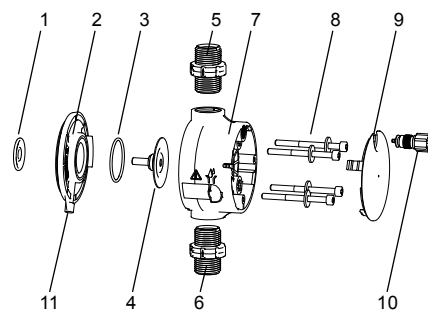

Fig. 23 Dosing head, exploded view
Daily	Check, if liquid leaks from the drain opening (fig. 23, pos. 11) and if the drain opening is blocked or soiled. If so, follow the instructions given in section 7.6 Diaphragm breakage .
This section refers to fig. 23.
If the diaphragm leaks or is broken, dosing liquid escapes from the drain opening (fig. 23, pos. 11) on the dosing head.
In case of diaphragm breakage, the safety diaphragm (fig. 23, pos. 1) protects the pump housing against ingress of dosing liquid.
When dosing crystallising liquids the drain opening can be blocked by crystallisation. If the pump is not taken out of operation immediately, a pressure can build up between the diaphragm (fig. 23, pos. 4) and the safety diaphragm in the flange (fig. 23, pos. 2). The pressure can press dosing liquid through the safety diaphragm into the pump housing.